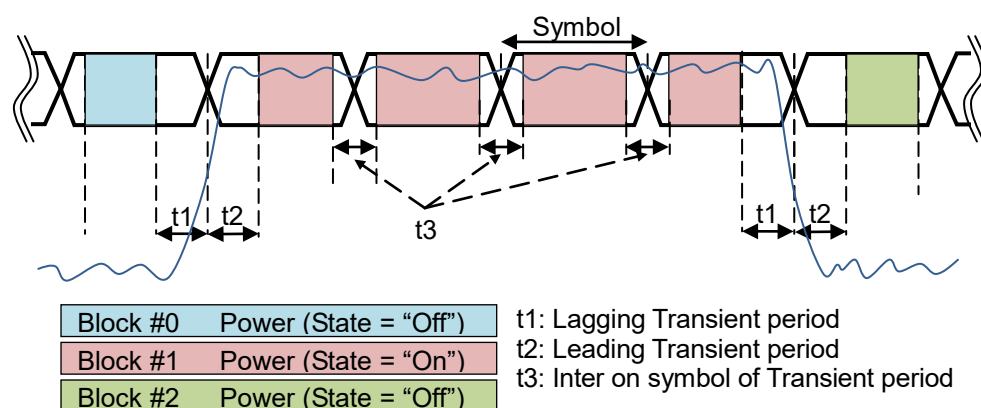

Figure 3.22-2 On Block Power Calculation Range
- Refer to Figure 3.22-2 On Block Power Calculation Range
- Figure 3.22-2 shows the power calculation range for each block when the state of 6 symbols is "Off, On, On, On, On, Off".